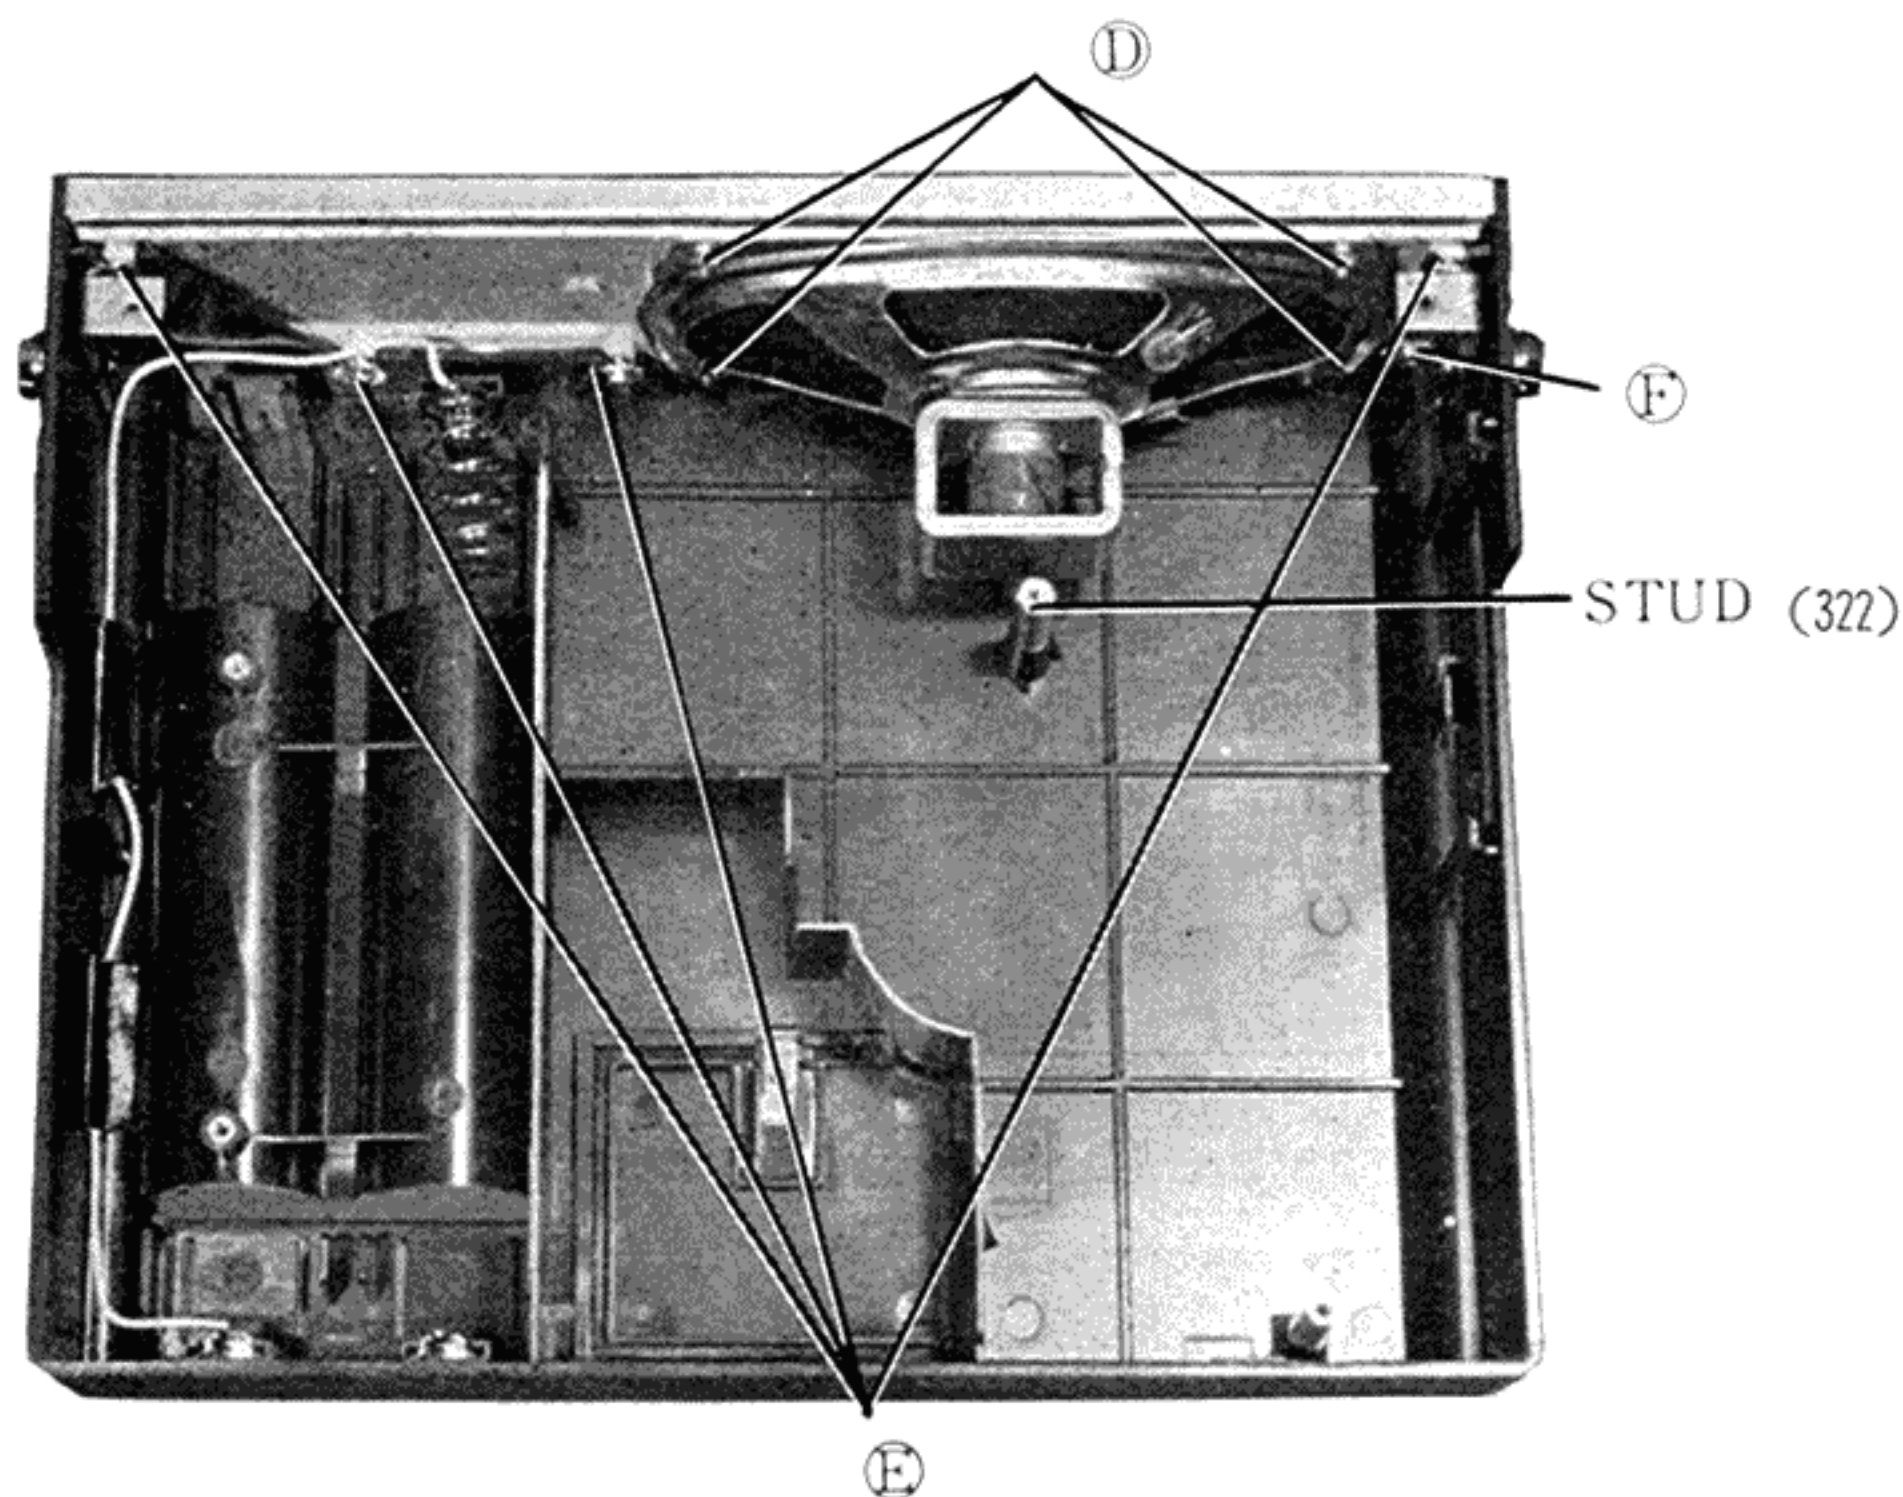

Fig. 3
- (1) After taking off Top Panel and Body Case, remove Mechanical Body
- (2) Remove four fitting screws (C).
4. Removal Procedure of Speaker Grille and Speaker. (Fig. 3)